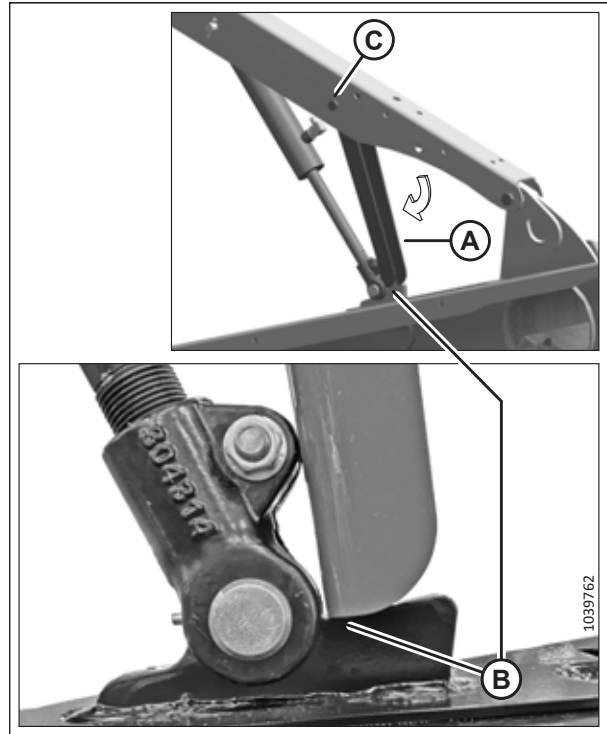

Figure 5.4: Reel Safety Prop – Left Arm Shown
3. Move reel safety props (A) to the engaged position as shown in Figure 5.4, page 84. The prop **MUST** be placed on the top surface of raised lug (B), making contact with the cylinder mount, to ensure positive engagement.